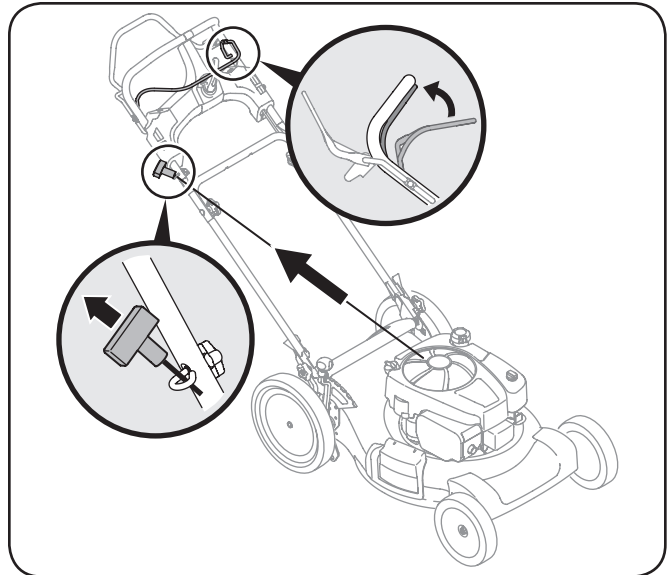

Figure 5-1
1. Standing behind the mower, squeeze the blade control against upper handle. See Fig. 5-1.
2. Grasp recoil starter handle and pull rope out with a rapid, continuous, full arm stroke. See Fig. 5-1. Keeping a firm grip on the starter handle, let the rope rewind slowly. If engine does not start after 10 seconds of repeated pulls, wait a few minutes and repeat.